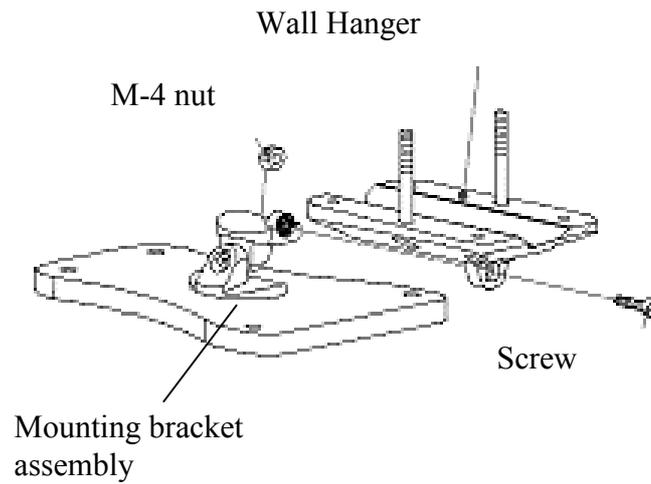

Figure 12-5: Wall hanger fixing method
4. Attach the wall bracket assembly to wall hanger using an M4 socket-head bolt and nut as shown in Figure 12-5. The bolt is only to be hand tightened at this stage.